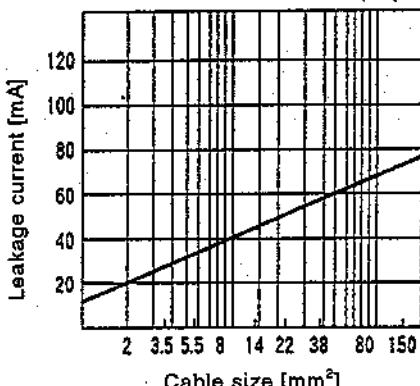

Fig. 6-1 Leakage Current per 1km (Ig1, Ig2) when CV Cable is Laid in a Metal Conduit
- Leakage current on the electric channel from the leakage current breaker to the input terminal of the servo amplifier: Ig1 [mA] (Obtain from Fig. 6-1.)
- Leakage current on the electric channel from the output terminal of the servo amplifier to the servo motor: Ig2 [mA] (Obtain from Fig. 6-1.)